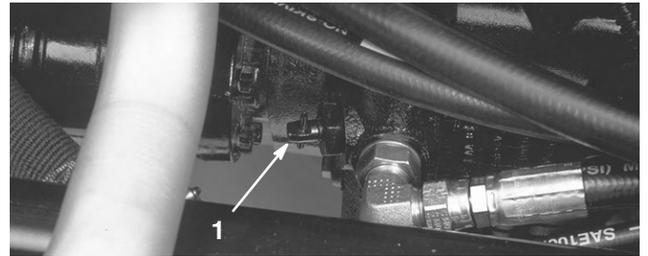

Figure 22
1. Locate the bypass valve on the pump (Fig. 22) and rotate it 90°.